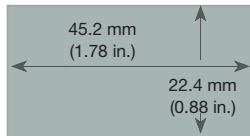

Figure 1
1. Make the panel cutout using the measurements in figure 1.